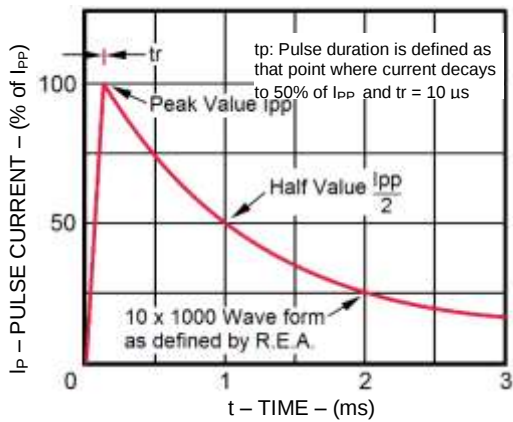

FIGURE 1 EXPONENTIAL PULSE
* See figure 1 for I_{PP} waveform of 10/1000 μs test pulse.